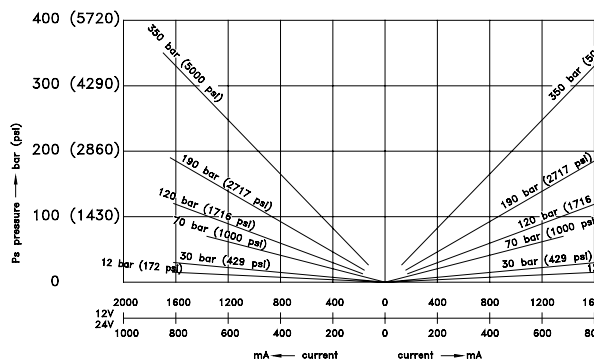

Fig. 1 DUAL TYPE
- nominal current see diagrams Fig. 1 and 2